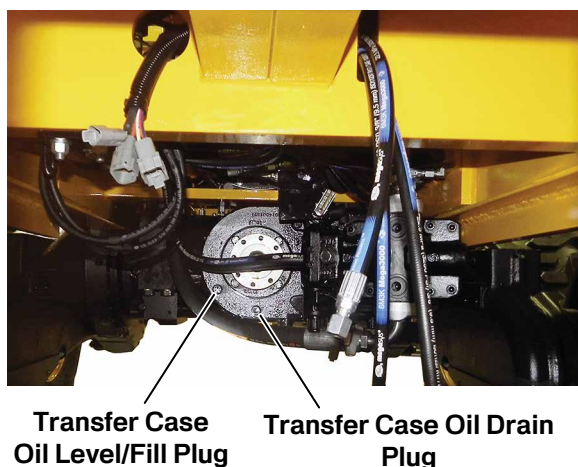

Figure 5-16. Transfer Case
3. Remove the transfer case oil drain plug (**Figure 5-16**).
6. Install drain plug and fill with oil until oil flows from the oil level/fill plug opening (**Figure 5-16**).